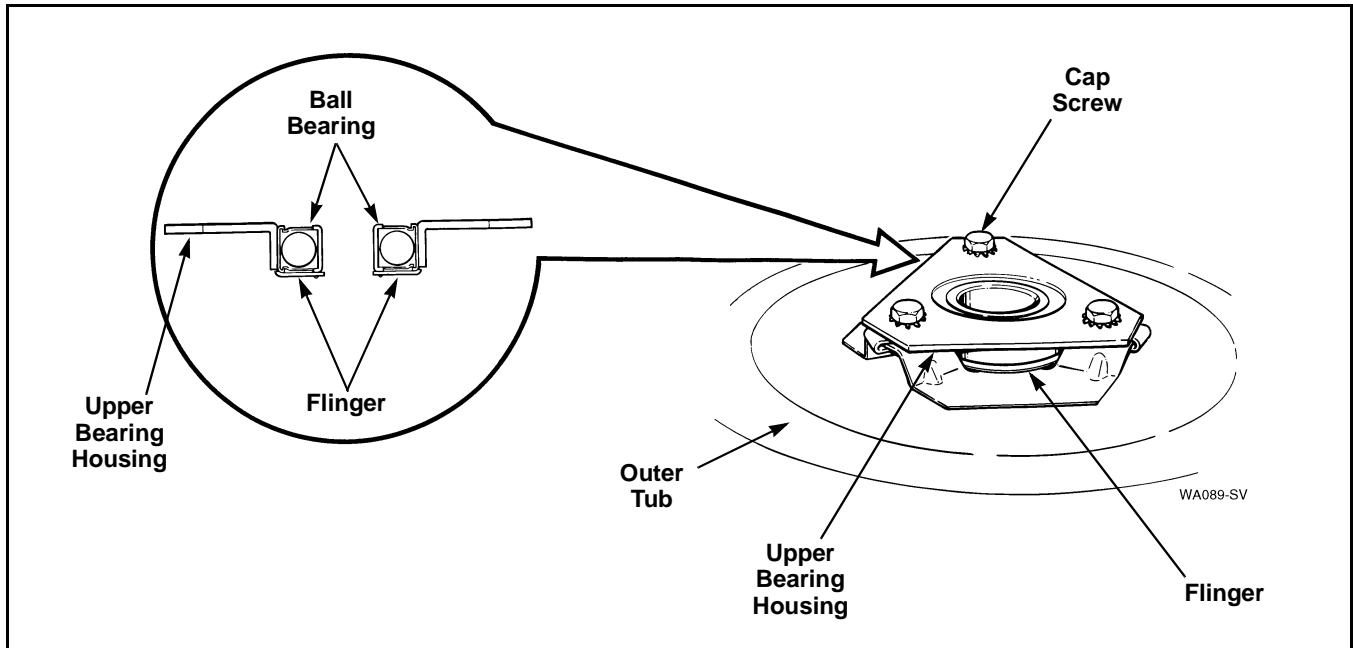

Figure 51
- c. Remove three screws holding upper bearing and housing to bottom of outer tub. Refer to *Figure 51*.
**NOTE: Replace bearing and housing as an assembly, and make sure flinger is properly positioned between outer tub and bearing assembly. Refer to *Figure 51*.**